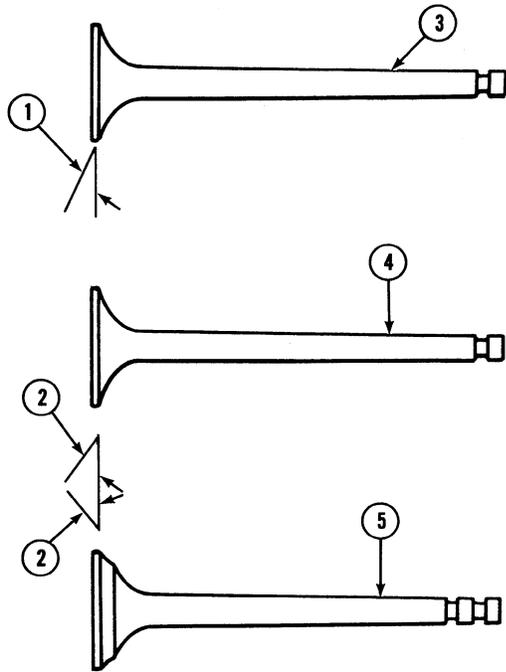

Figure 10
6. **VALVES:** If the valve face is unduly pitted, replace or reface all valves to 44°15'–44°30' except the intake valve on the turbo-charged engine, which is to be ground to 29°15'–29°30', Figure 10.